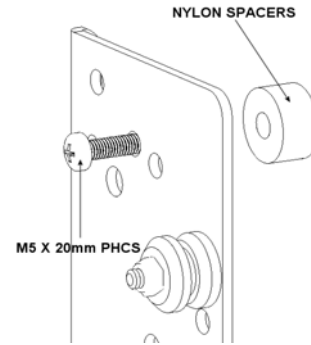
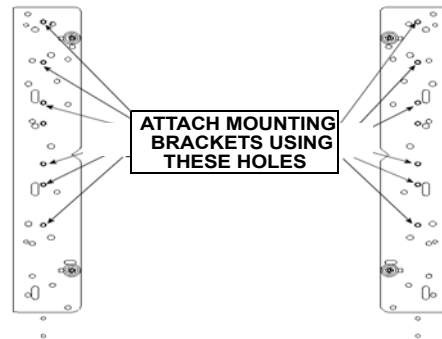

Figure 39. Spacer Installation for Group 14
Figure 42. Bracket Attachment for Group 14
4. Place the interface brackets over the Nylon spacers (see Figure 39 and Figure 42).
6. Using the hardware from parts bag F, attach the interface brackets to your Large Flat Panel display (see Figure 39 and Figure 40). Do not overtighten the mounting screws.